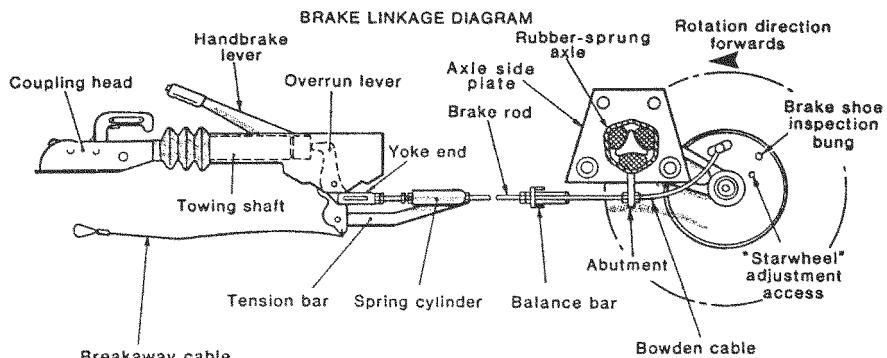
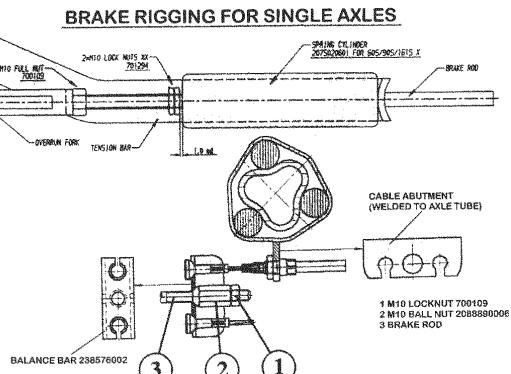

Fig. 10
Fig. 12
properly when the handbrake is not in the FULLY OFF position. (Fig. 10).
4. Remove the inner plastic bung from the backplate to expose the "starwheel" adjuster access. (Figs. 10 & 11).
1. Ensure the towing shaft with coupling head is pulled FULLY FORWARD. (Fig. 10).
When the inner cable is pulled out it should extend between 5 and 8 mm. (Fig.12). (On tandem axles a double abutment (bracket) is fitted to the front axle ONLY).
10. Ensure the balance bar (compensator) is being pulled evenly (Figs.10 & 12). Excessive movement to this bar (double on tandem axles) would indicate possible incorrect adjustment (if appropriate, repeat step No. 7 - Fig. 12).
12. Remove the slack in the brake rod by adjusting the long ball nut, rear of the balance bar, ensuring the overrun lever makes contact with the end of the towing shaft. Note! Over adjustment to the long ball nut (Fig. 12/Item 2) could induce movement of the inner brake cable, reducing the effective clearance of the brake shoes. If the overrun lever will not make contact, it is possible the two lock nuts, forward of the spring cylinder, are incorrectly adjusted. Loosen the nuts and adjust brake rod as above (Figs. 10 & 12).
13. Adjust the two locking nuts, forward of the spring cylinder (Fig. 10), (on some chassis a single Nyloc nut is used) to give 1 mm of clearance on the spring cylinder. This cylinder (the energy store for the handbrake operation) must be able to rotate ONLY, not slide on the brake rod. (Fig. 12). (If the overrun assembly is fitted with a gas strut handbrake then no spring cylinder is fitted - therefore ignore this paragraph).